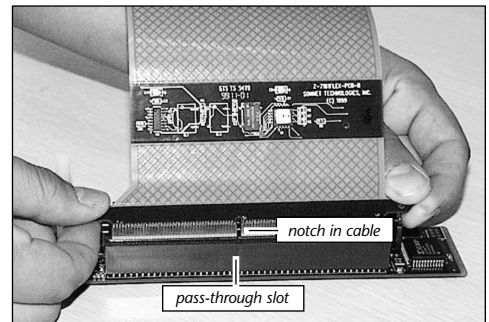

Figure 16: Attach video flex cable to Crescendo card
13. Install the video flex cable into the pass-through slot of the Crescendo card (note the notch in the cable for orientation). Press down on the outer edges of the cable until it is firmly seated (**Figure 16**).